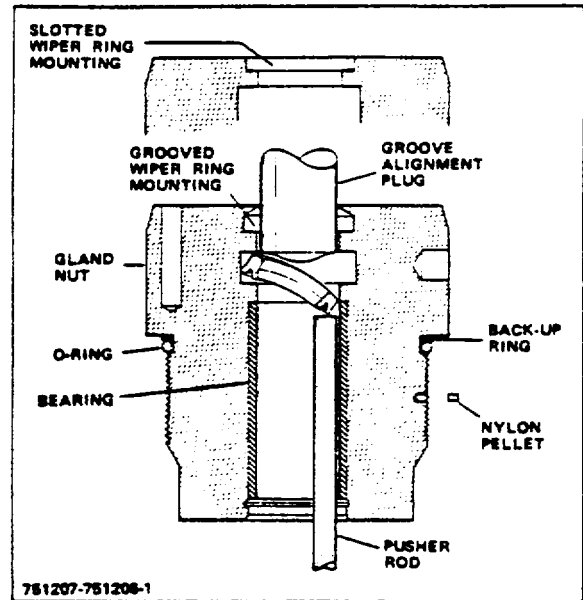
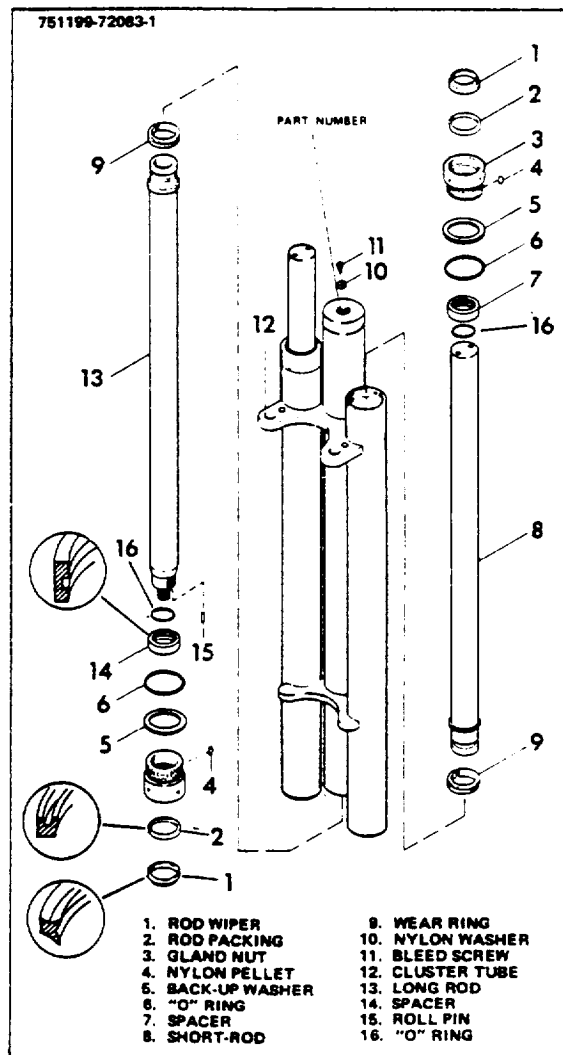

Figure 2-1. Gland Nut Packing Installation
Figure 5-1. Lift Cylinder Cluster
The gland nut can have a slotted or a grooved type wiper ring mounting (Fig 2-1). The slotted type mounting takes a steel re-enforced wiper ring. The grooved type mounting takes a flexible wiper ring. Observe direction of packing and wiper rings in associated exploded cylinder figures. Install packing and wiper ring on gland nut using the following steps; this procedure can also be used on gland nuts similar to the gland nut in Figure 5-1:
1. Install bearing (when applicable) in bore of gland nut. Compress packing together and feed end into bearing or gland nut bore. Release packing and use push rod to force inserted end of packing through bore and into gland nut groove. Install groove alignment plug through top of gland nut to secure packing. Force lower end of packing into groove with pusher rod (Fig 2-1). The groove alignment plug and the pusher rod can be made of soft metal or plastic.
5. Install nylon pellets into the holes provided along the threaded area of the gland nut (Fig 2-1).
2. Remove the gland nut (Fig 5-1) and spacer from tube with a spanner wrench.
1. Refer to Figure 5-1 and place wear ring on rod.